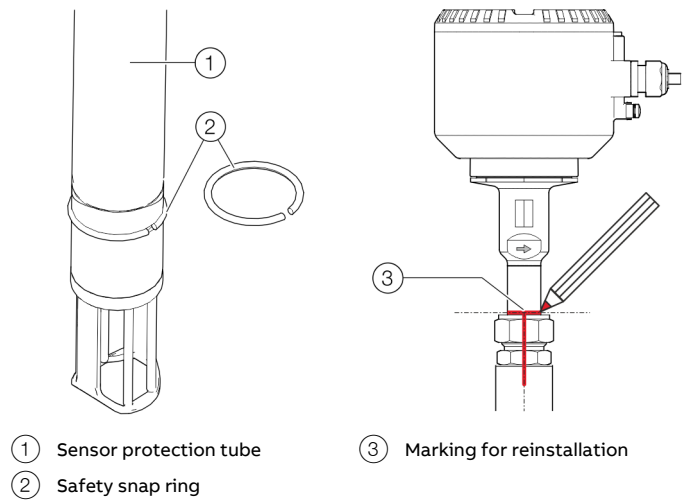

Figure 19: Snap ring and marking
2. Insert the safety snap ring using mounting pliers (see Figure 19, Pos. ②).
5. Using a suited marker pen, mark the orientation and height of the sensor on the sensor protection tube, compression fitting and the welding adapter (see Figure 19, pos. ③). The marking on the union nut is also used as a starting position (6 o'clock position, see Figure 20) for the tightening of the compression fitting
3. Using a suited marker pen, mark the orientation and height of the sensor on the sensor protection tube, compression fitting and the welding adapter (see Figure 19, pos. ③).
1. Make sure that the safety snap ring is inserted in the provided snap ring groove (see Figure 19, pos. ②).